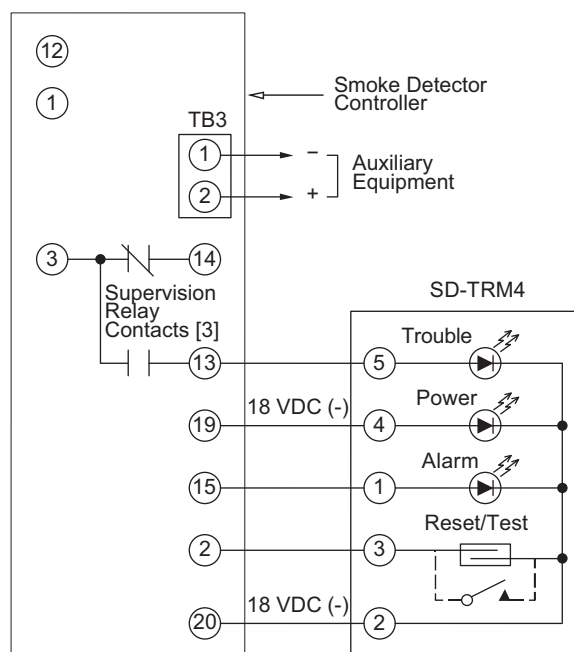

Fig. 51 — Remote Test/Reset Station Connections
The test/reset station dirty sensor test checks the test/reset station's ability to initiate a sensor dirty test and indicate the results. It must be wired to the controller as shown in Fig. 51 and configured to operate the controller's supervision relay. For more information, see "Dirty Sensor Test" on page 40.
1. Verify that the remote test/station is wired as shown in Fig. 51. Repair or replace loose or missing wiring.